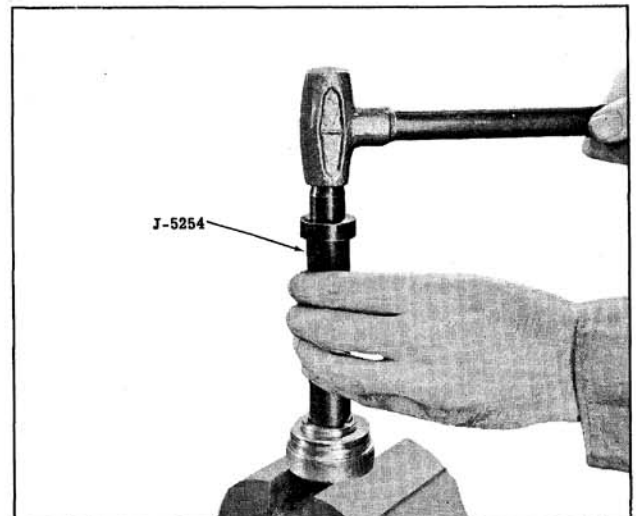

Fig. 8-49 Seal and Bearing Removal
3. If the needle bearing is to be replaced, remove the retaining ring using internal pliers, then drive the dust seal, seal and bearings from the adjuster plug with Tool J-5254. (Fig. 8-49) Discard seal and bearing.